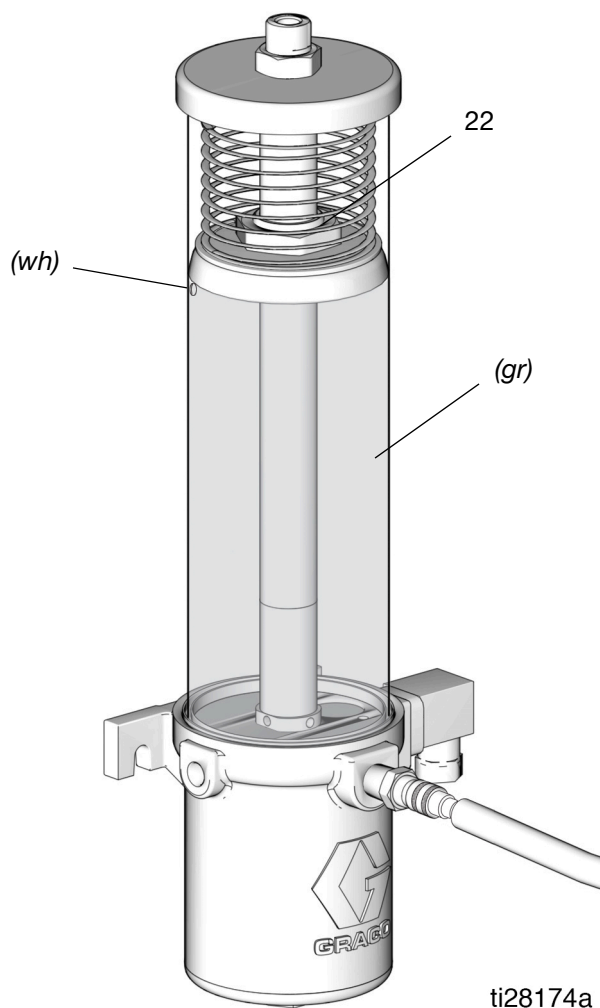

FIG. 5
- Slowly dispense grease from the fill pump into the reservoir until the grease in the reservoir lifts the follower plate (22) above the reservoir weep hole (*wh*), grease comes out of the weep hole (*wh*) and expels the air inside the reservoir (FIG. 5).